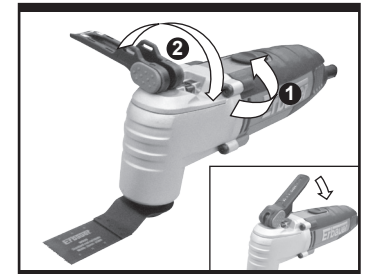

Fig. 3
- Rotate the Lever clockwise until accessory is tightened Securely (See Fig. 3).
- Flip lever back down. (See Fig. 3)
- Return lever to seated position. (See Fig. 3)